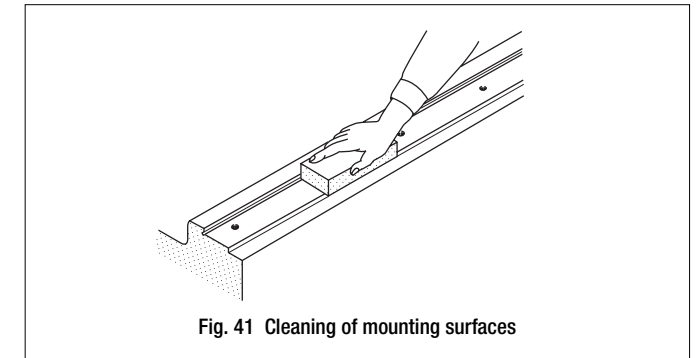

Fig. 41 Cleaning of mounting surfaces
- Remove burrs and blemishes from reference mounting surfaces and mounting surfaces of the machine using an oil-stone, etc., and then wipe the surfaces with clean cloth. (See Fig. 41.)